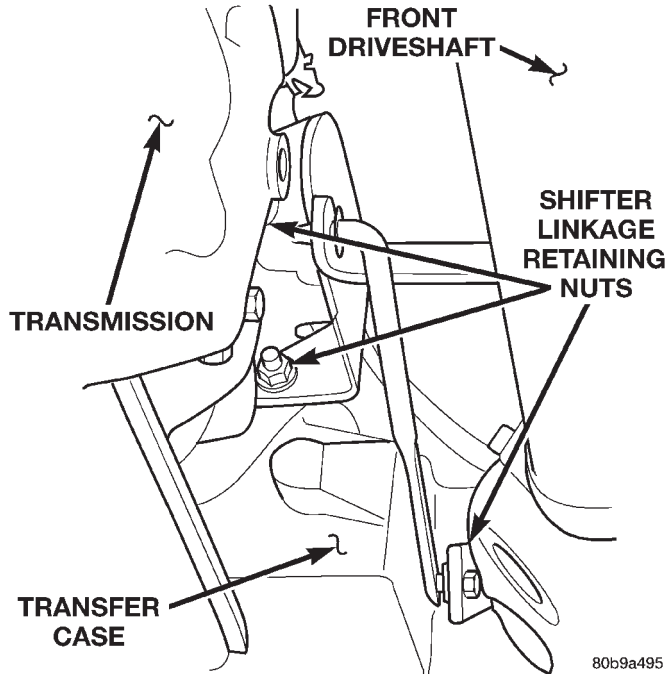

Fig. 22 Transfer Case Shift Linkage — 4x4
(4) Install the fuel lines on the fuel / water separator.
(5) Connect the electrical connectors to the bottom of the fuel/water separator.
(6) Install the power steering fluid pressure line on the steering gear.
(7) Install the oil filter and adaptor on the engine. Torque adaptor retaining bolt to 50 N-m (37 ft. lbs.). Fill the oil filter prior to installation.
(8) Install the fan shroud and both cooling fans as an assembly in the vehicle.
(9) Raise the vehicle on a hoist.
(10) Install the transmission and transfer case assembly in the vehicle.
(11) Install the bolts securing the transmission to the engine assembly. Torque to 74.6 N-m (55 ft. lbs.).
(12) Position, connect and secure all electrical connectors and vent hoses on the transfer case and transmission in there original positions.
(13) Install the transmission support crossmember. Torque bolts to 50 N-m (37 ft. lbs.).
(14) Install the (3) nuts retaining the transfer case shift linkage (Fig. 22).